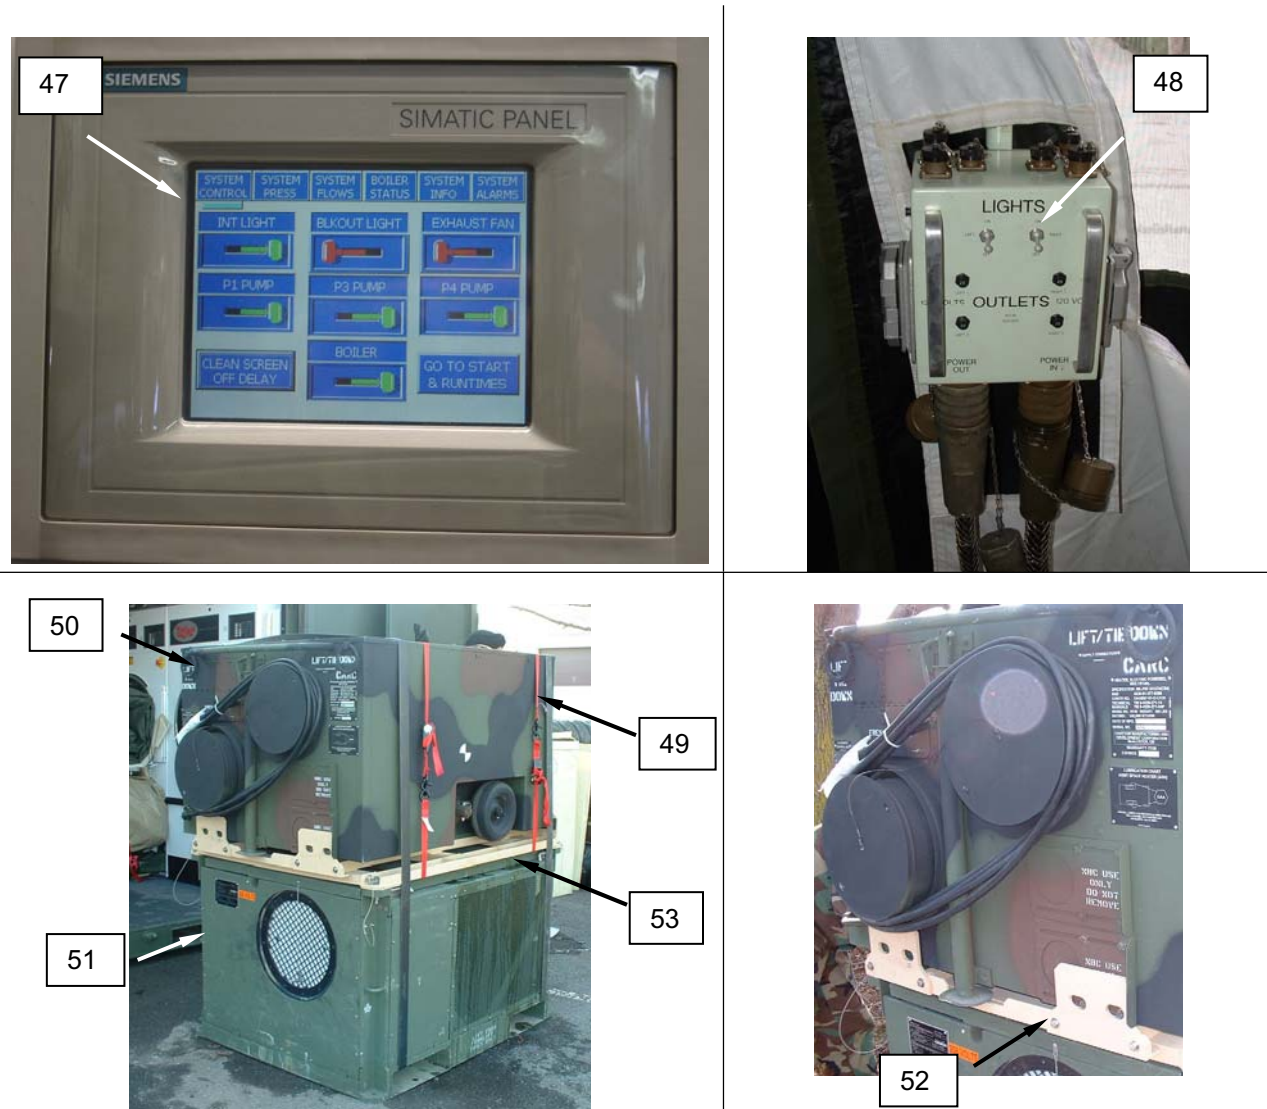

Figure 14. Prepare CBL for Use.
1. Switch the CBL interior lighting ON at the PLC (Figure 14, Item 47).
2. Switch the TEMPER lighting (Figure 14, Item 48) ON.
3. Remove straps (Figure 14, Item 49) from stacked ASH (Figure 14, Item 50) and FDECU (Figure 14, Item 51).
4. Remove retention plates (Figure 14, Item 52) from attaching brackets (Figure 14, Item 53).